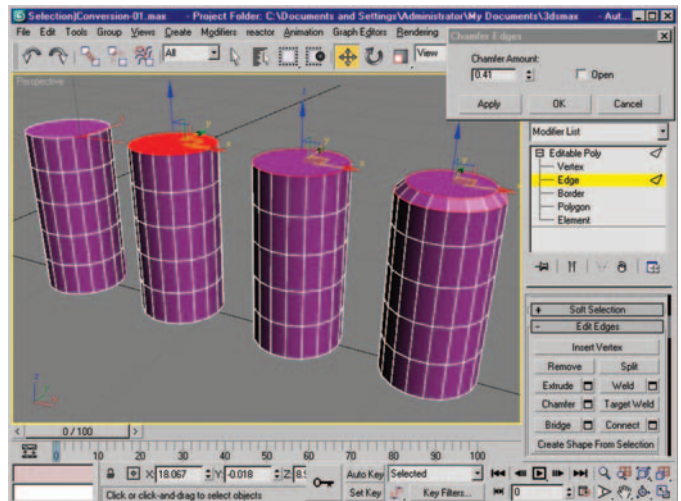

Figure 3.30 Four steps to chamfering the edge selection.
3. Select one of the edges that encircles the top polygon of the cylinder. Hit Alt+L to create a loop selection ... didn't work, did it? See Figure 3.30 (left mesh).
4. Select the top polygon at the Polygon subobject level, and right-click the polygon to convert to an Edge selection (Quad menu). In two clicks we have our desired selection, and we could easily perform the chamfer on the edges (Figure 3.30). *Note: You could also Ctrl+left-click the Vert icon in the Selection rollout.*
This is a very basic example, but it shows the effectiveness of the approach. Figure 3.30 shows the stages of the selection conversion as well as the final resulting chamfered edge selection.